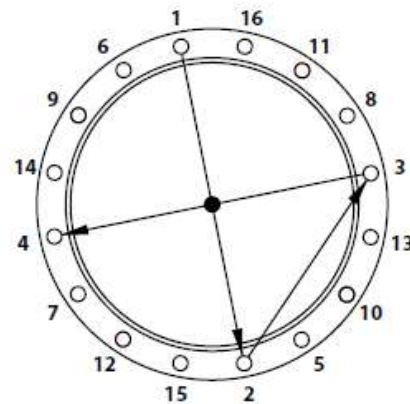

Figure 4
8. Tighten the screws following the tightening sequence as shown in Figure 4 and with the appropriate torque shown in Figure 5.